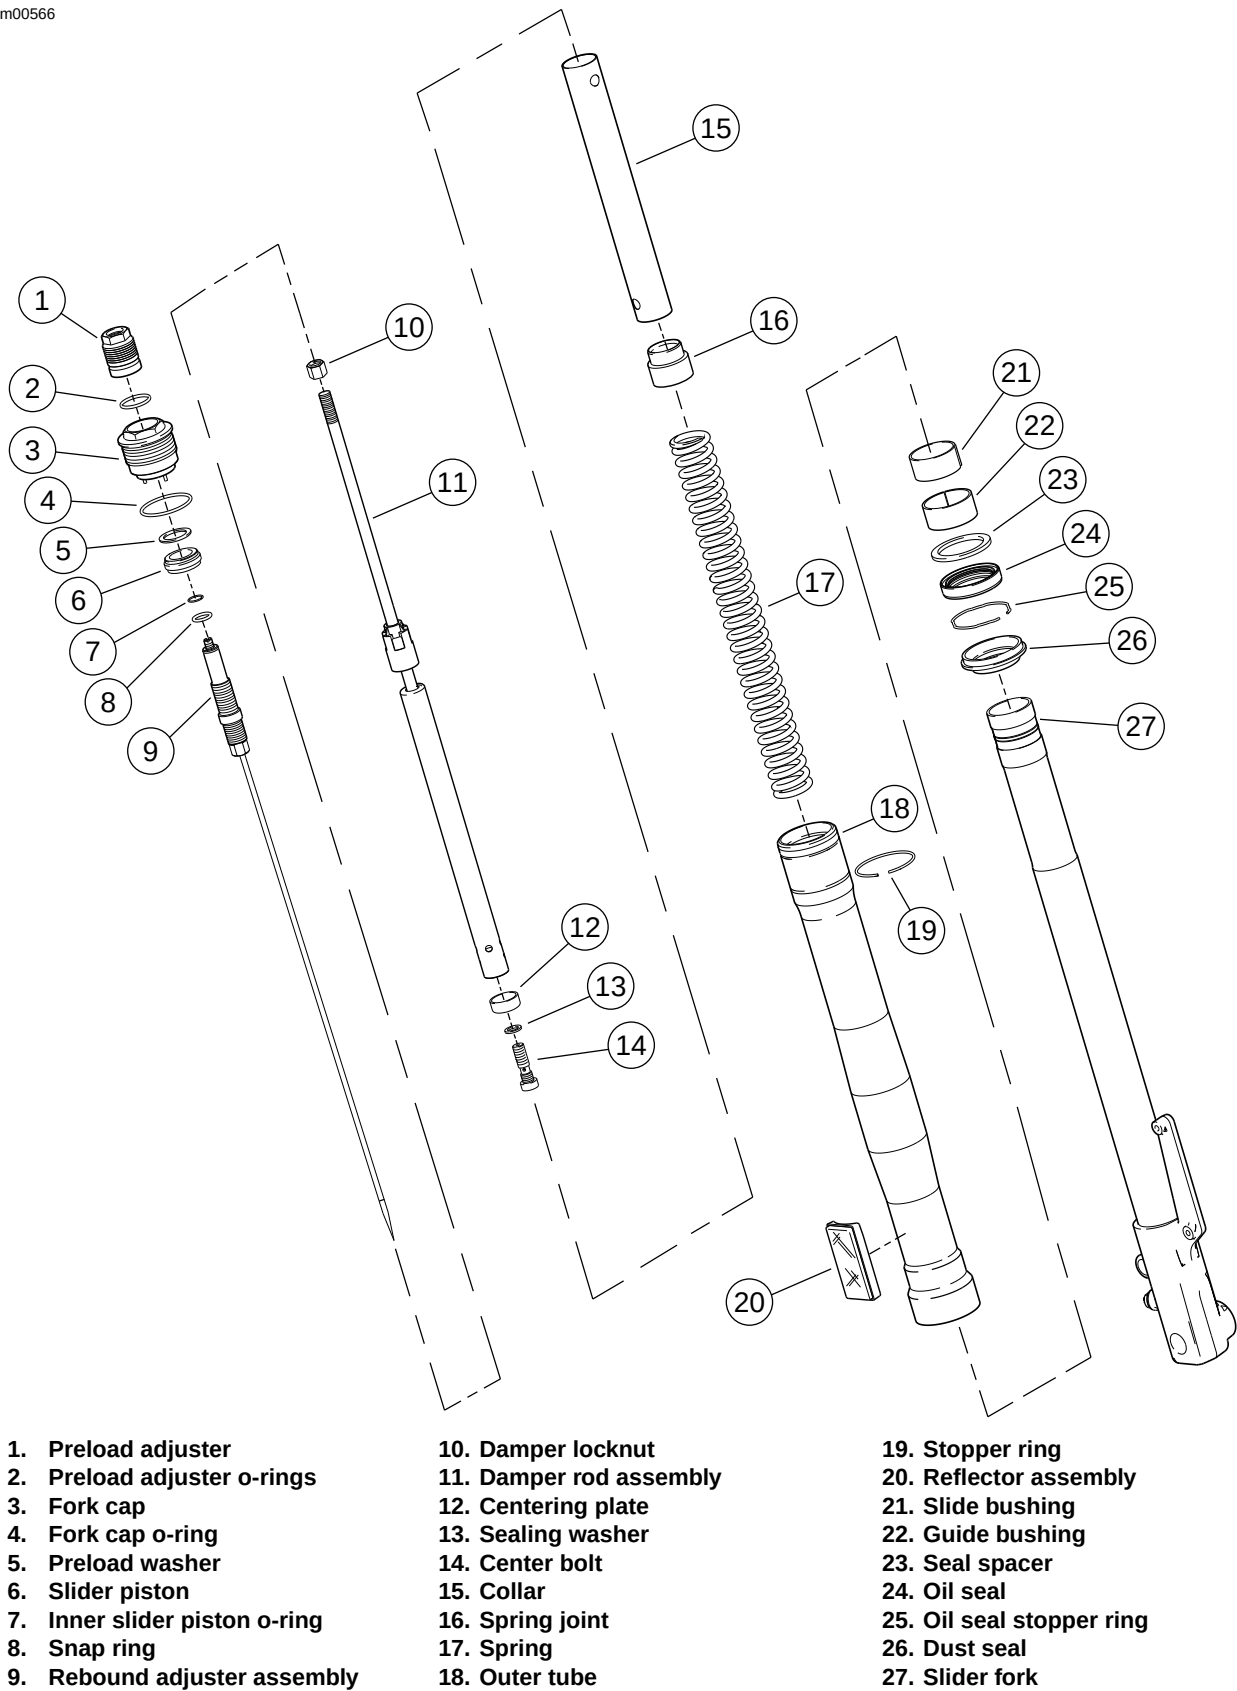
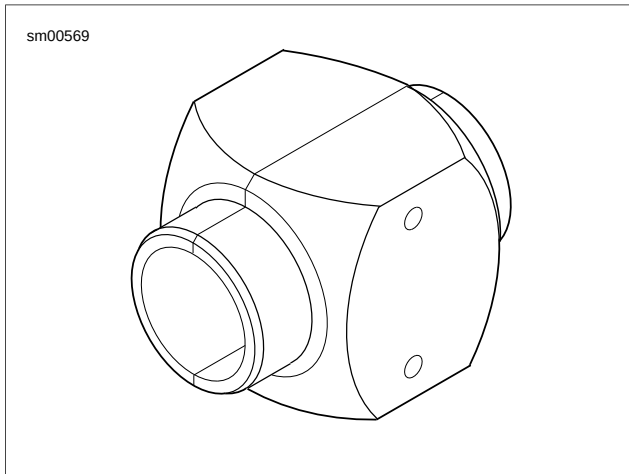

Figure 2-79. Front Fork Assembly
Figure 2-82. Fork Seal Driver
10. See Figure 2-79. Over drain pan, spring collar (15), remove spring (17) and drain fork oil.
11. Drain remaining fork oil by pumping the damper rod assembly (11) approximately 8 to 10 times or until damper rod assembly moves freely.
- See Figure 2-79. Disassembly of damper rod is not required unless damper locknut (10) has been moved. If
1. See Figure 2-79. Lightly turn the rebound adjuster screw on top of the rebound adjuster assembly (9) counter clockwise till it stops.
2. Holding the damper locknut (10), unscrew the rebound adjuster assembly (9) and remove from damper rod assembly (11).
3. Remove damper locknut (10) from damper rod assembly (11).
2. See Figure 2-79. Check the slider fork (27) and outer tube (18) for score marks, scratches and excessive or abnormal wear. Replace if worn or damaged.
3. Check the slide bushing (21) and the guide bushing (22) for excessive wear or scratches. Replace if damaged or worn.
4. Replace the stopper ring (19) if distorted.
5. Refer to Table 2-19. Measure spring (17) free length. Replace springs shorter than service wear limit.
1. See Figure 2-79. Fully thread the damper locknut (10) on to damper rod assembly (11) clockwise till it lightly bottoms.
1. See Figure 2-79. Wrap the end of the slider fork (27) and the slide bushing channel with tape to avoid damaging the oil seal lip when installing.
2. Install a **new** dust seal (26) and oil seal stopper ring (25) onto the slider fork (27).
3. Coat the sealing lips of the new oil seal (24) with fork oil or sealing grease and install onto the slider fork with its marked side facing the dust seal (26).
5. Install the seal spacer (23), the guide bushing (22) and the slide bushing (21) onto the slider fork (27).
6. Coat the slide bushing (21) and the guide bushing (22) with fork oil.
7. See Figure 2-79. Drive the guide bushing (22) with the seal spacer (23) and oil seal (24) into position in the outer tube using a FORK SEAL DRIVER (Part No. B-43721/41mm or B-42571/43mm). See Figure 2-82.
8. Install the oil seal stopper ring (25) and a **new** dust seal (26).
10. See Figure 2-79. Install the centering plate (12) onto the damper rod assembly (11) and insert the damper rod assembly into the slider fork (27).
11. Replace the sealing washer (13) and center bolt (14) (metric). Tighten the center bolt to 22-30 ft-lbs (30-40 Nm).
18. See Figure 2-79. Install spring (17) and collar (15).
23. See Figure 2-79. Thread fork cap (3) into fork outer tube (18) and tighten to 22-30 ft-lbs (29.8-40.6 Nm).
24. Apply fork oil or light grease to o-rings (2) on preload adjuster (1) and install preload adjuster.
25. Install snap ring (8).